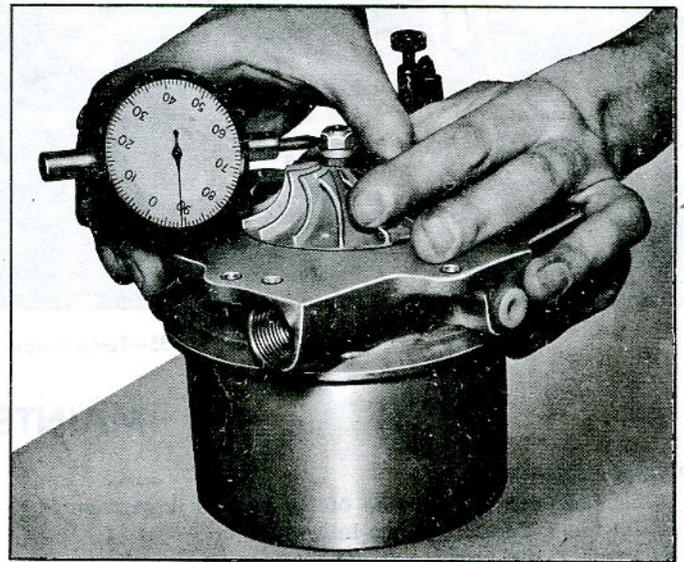

Fig. 38—Gauging Turbine Shaft Radial Play
- With the assembly on the support ring (Tool J-21004), position the dial indicator so its point is resting on a flat of the impeller nut (fig. 38) and needle set at zero.